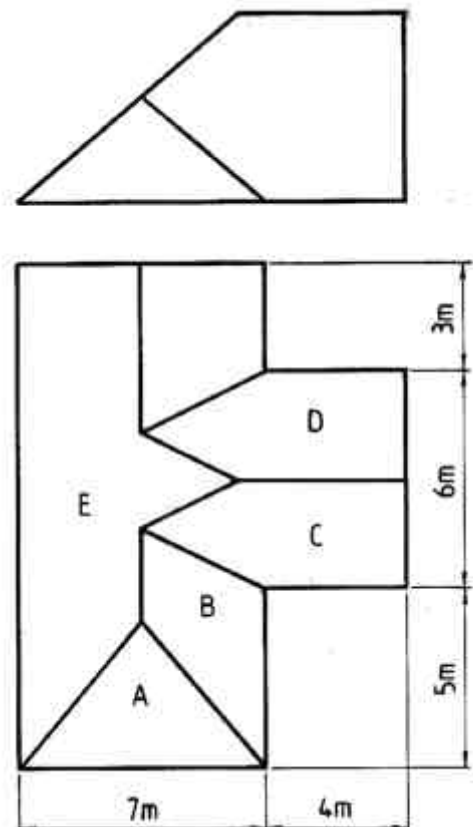

FIG.2
2. Fig. 2 shows the outline plan and elevation of a roof. Surface A has a pitch of 35° ; surfaces B and E have a pitch of 40° and surfaces C and D have a pitch of 60° .